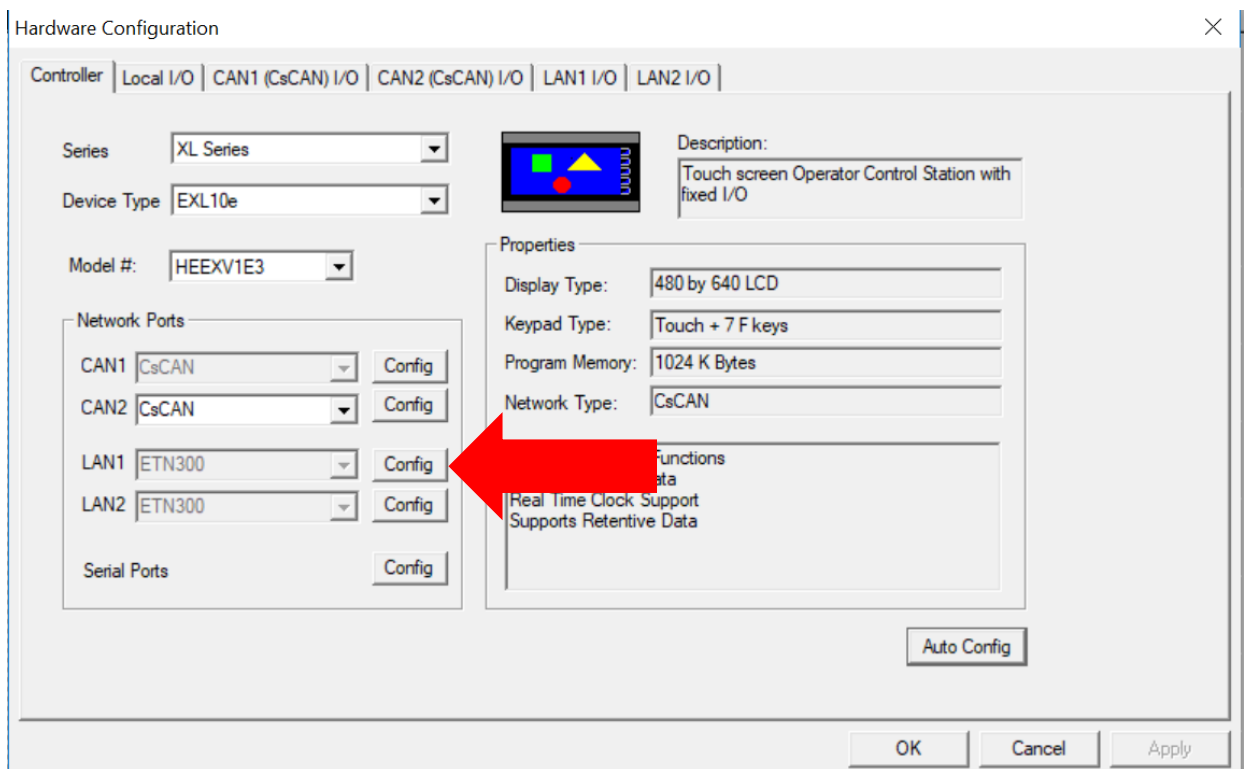

Figure 12.1 – Hardware Configuration Dialog
1. On the main Cscape screen, select the **Controller** → **Hardware Configuration** sub-menu to open the Hardware Configuration dialog (Figure 12.1).